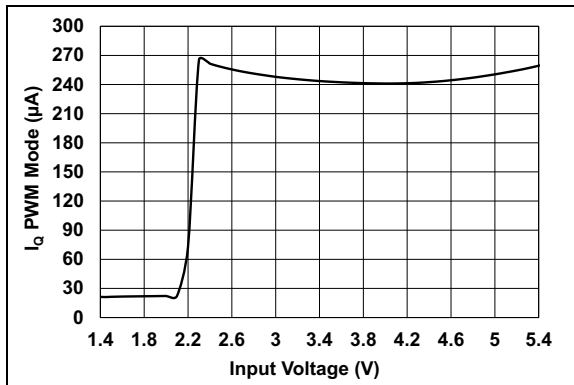

FIGURE 2-8: No Load Input Current, I_{INO} vs. V_{IN} ($EN = V_{IN}$).
- I_{IN0} varies with input and output voltage (Figure 2-8). I_{IN0} is measured on the V_{IN} pin when the device is switching ($EN = V_{IN}$), at no load, with $R_{TOP} = 120\text{ k}\Omega$ and $R_{BOT} = 1.05\text{ M}\Omega$.
- 2:** I_{IN0} varies with input and output voltage (**Figure 2-8**). I_{IN0} is measured on the V_{IN} pin when the device is switching ($EN = V_{IN}$), at no load, with $R_{TOP} = 120\text{ k}\Omega$ and $R_{BOT} = 1.05\text{ M}\Omega$.